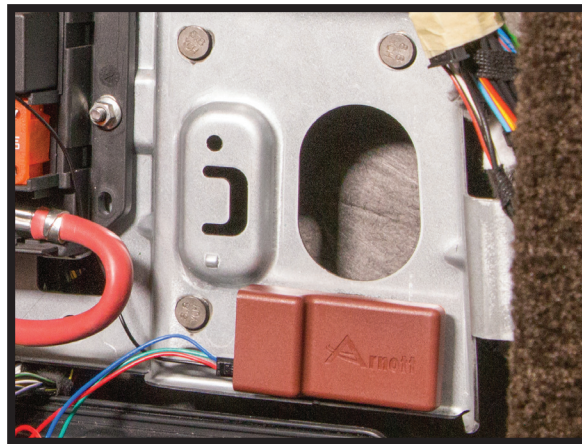

FIGURE 76
7. SECURE IN SUITABLE LOCATION. (FIGURE 76)